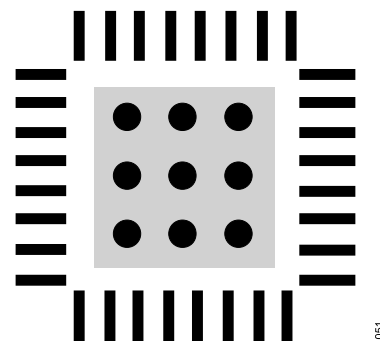

Figure 65. Exposed Pad Layout Example, Top View
- ▶ Vias should be placed to connect all layers of copper, allowing for efficient heat and energy conductivity. For an example, see Figure 65, which has nine vias arranged in a 3 inch $\times$ 3 inch grid in the pad area.